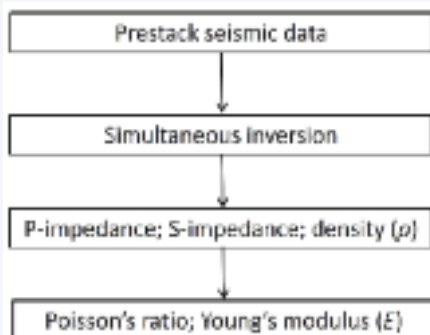

Figure 1. Rickman et al. (2008) workflow for characterizing shale gas formation.
Figure 1. Target Correlation Coefficient Analysis (TCCA) for (a) Lithology impedance. (b) Fluid impedance. The c -value in (a) is 2.78 and in (b) is 1.75. These values are used for computing LI and FI.
In this study, we automatically calculate the correlation coefficients between the PI curve with different c -values versus the GR curve and the porosity (ϕ) curve. This correlation of PI with GR is shown in Figure 1a. The maximum correlation coefficient reached in for the c -value is 2.78 ($cc=0.678$). Similarly, the correlation of PI with ϕ is illustrated in Figure 1(b). The c -value 1.75 ($cc= -.875$) corresponding to the maximum correlation of the PI with the porosity curve is noticed. Thus, Poisson impedance attributes, namely, Lithology impedance (LI) using equation $I_p=2.78*I_s$, and Fluid impedance (FI) using equation $-(I_p-1.75*I_s)$ can be derived. They are useful because of their sensitivity to lithology and porosity respectively. The cross-plot of LI versus GR is shown in Figure 2a. On this the red polygon encloses the points having low LI and GR while points corresponding to high LI and GR are enclosed by the blue polygons. The back projection of these polygons on well-log curves is shown in Figure 2b. Notice that the points corresponding to red polygon are coming from the Halfway sandstone while shale formation is highlighted by the points coming from blue polygon. Thus, the cross-plot of LI versus GR shows the advantage of LI in distinguishing sandstone
Rickman et al. (2008) showed that brittleness of a rock formation can be estimated from the computed Poisson's ratio and Young's modulus well log curves. This suggests a workflow for estimating brittleness from 3D seismic data, by way of simultaneous pre-stack inversion that yields I_p , I_s , V_p/V_s , Poisson's ratio, and in some cases meaningful estimates of density. Zones with high Young's modulus and low Poisson's ratio are those that would be brittle as well as have better reservoir quality (higher TOC, higher porosity). Such a workflow works well for good quality data and is shown in Figure 1.